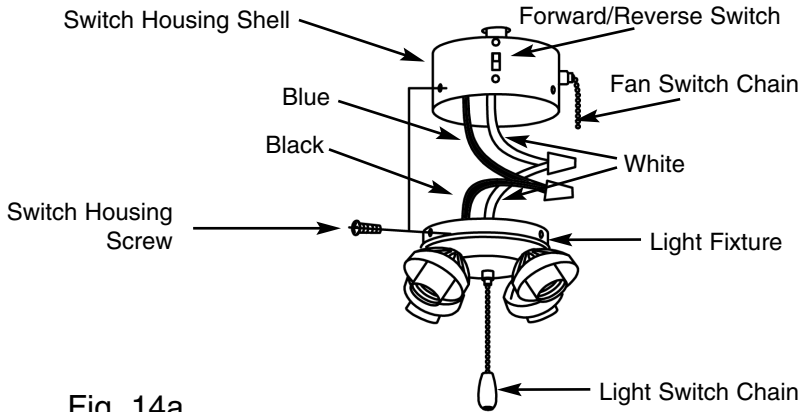

Fig. 14a
Remove switch housing screws. Press fixture up into switch housing shell, aligning screw holes. Insert (3) screws and tighten firmly (see figure 14a).